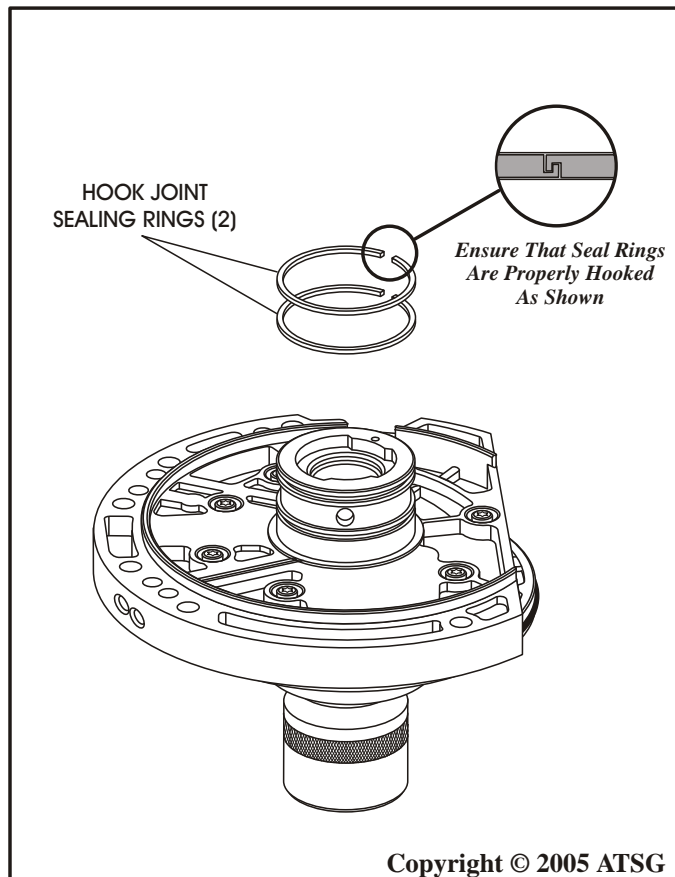

Figure 137
13. Install the underdrive clutch sealing rings, as shown in Figure 137, and ensure that they are properly hooked and have free rotation.